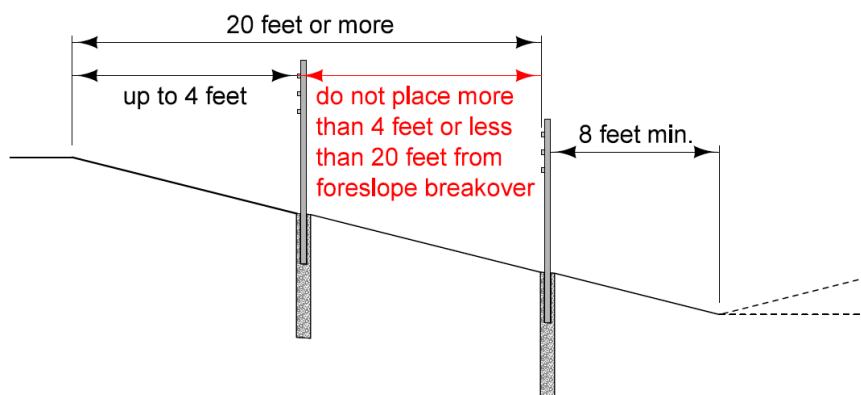

Figure 2: High tension cable guardrail placed on slopes 4:1 to less than 6:1.
- On slopes of 4:1 up to (but less than) 6:1, the high tension cable guardrail must be located no more than 4 feet, or no less than 20 feet, from the foreslope breakover, see Figure 2. It should be placed no closer than 8 feet from the breakover at the bottom of a ditch, see Figure 2.